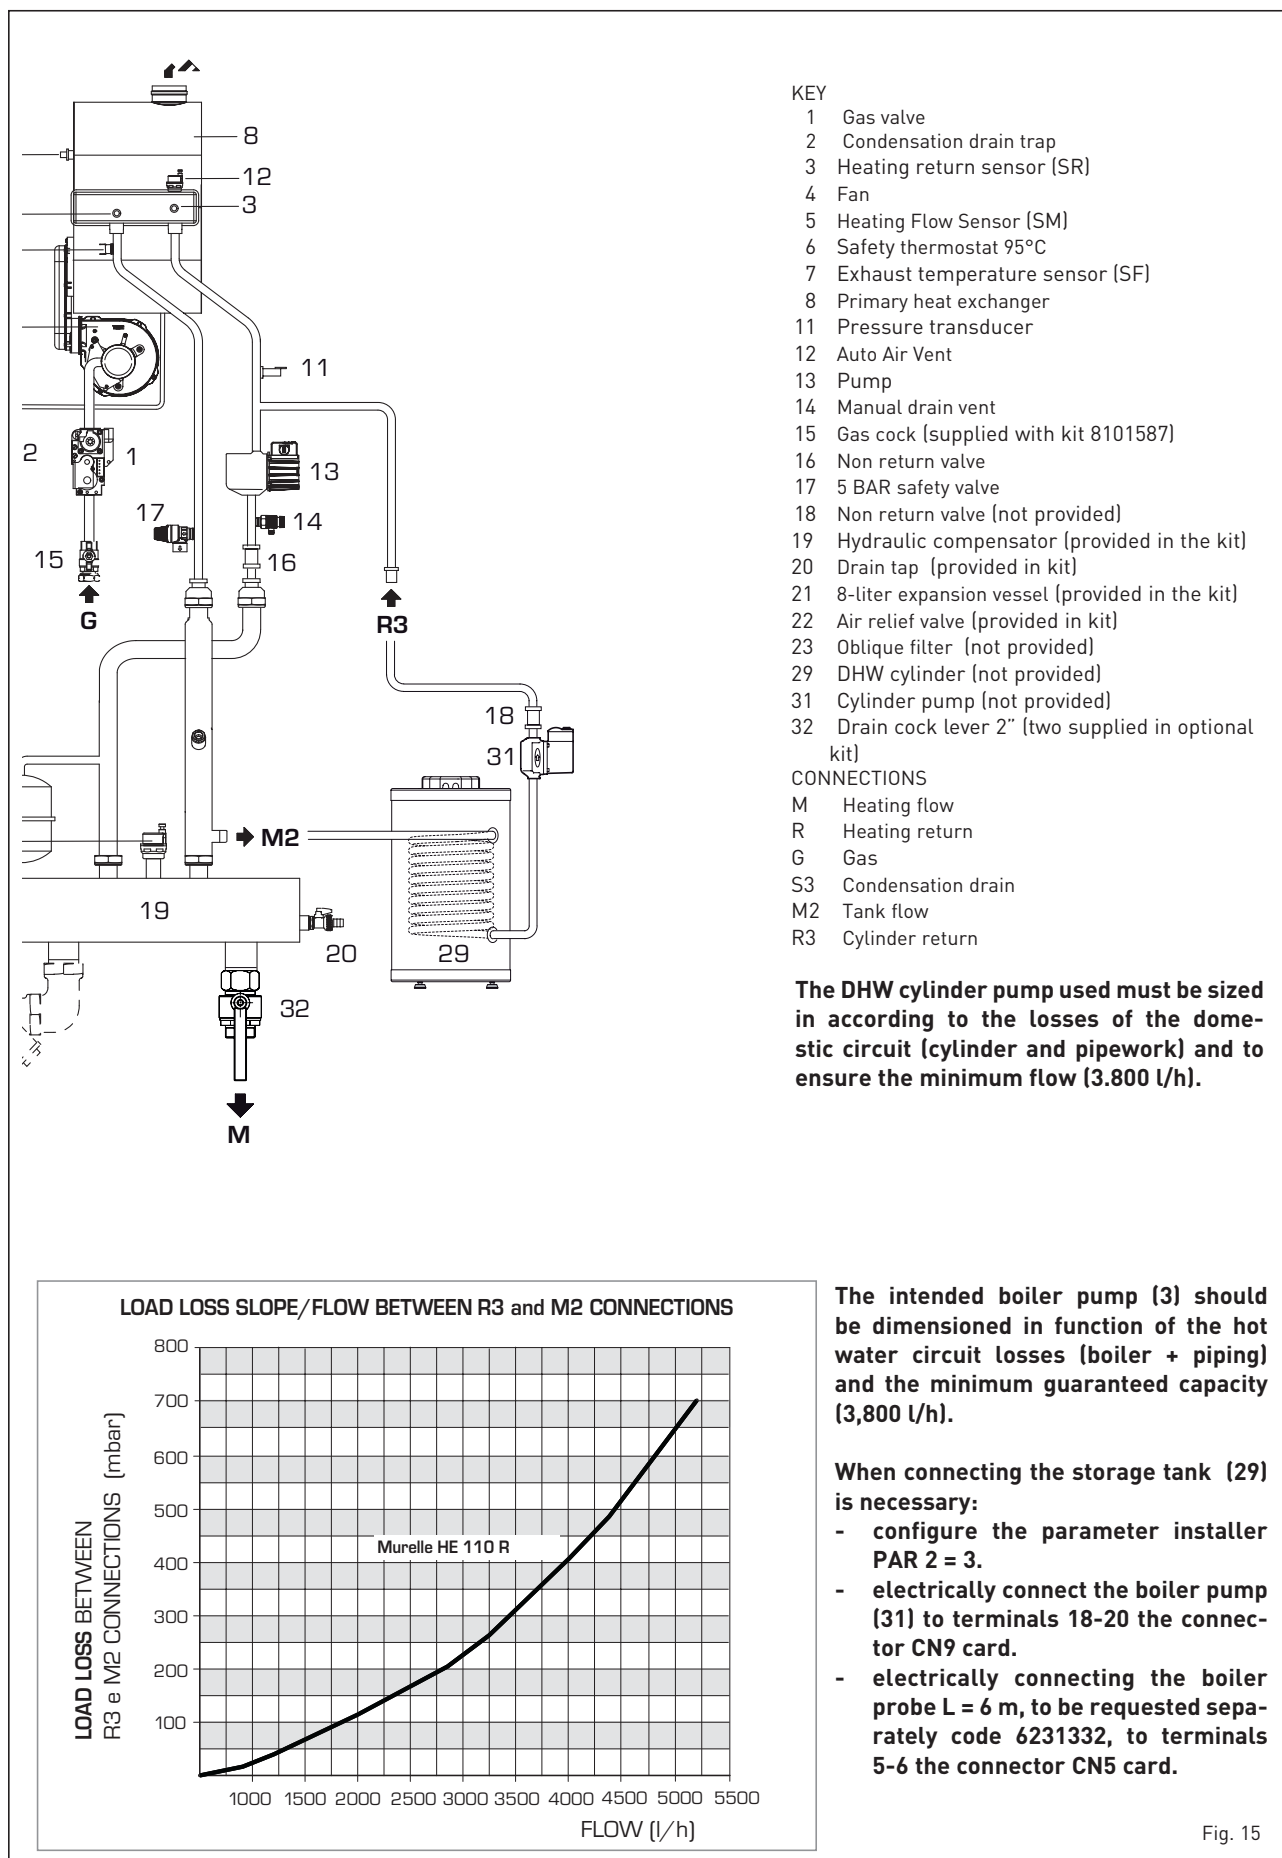

Fig. 15
3.9 "MURELLE HE 110 R" WITH COMPENSATOR KIT CODE 8101587 AND DHW CYLINDER (fig. 15)